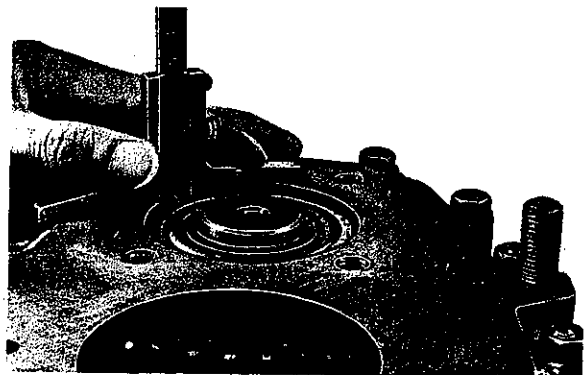

Fig. 42
2. Apply depth gauge to measure gap between bearing outer race and face end of housing (Fig. 42).